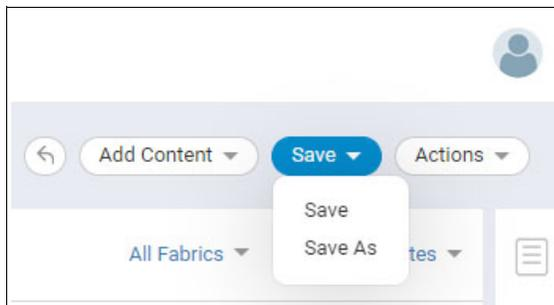

Figure 5-139 Saving the template
10. Select either **Save** → **Save** or **Save** → **Save As** to save the report template (Figure 5-139).